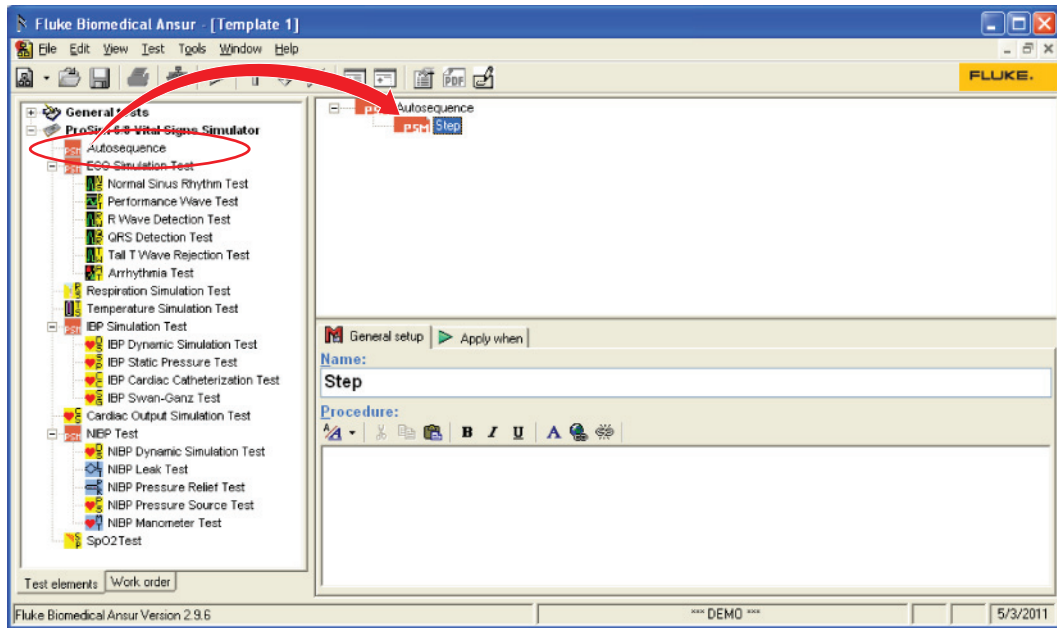

Figure 3-38. Drag Auto Sequence Container to Template to Create Step Container
4. Drag another Autosequence container from the Test Explorer window to the template window but place it on top of the first Auto Sequence icon. It will put the container under the Auto Sequence icon and label the new container Step. See Figure 3-38.